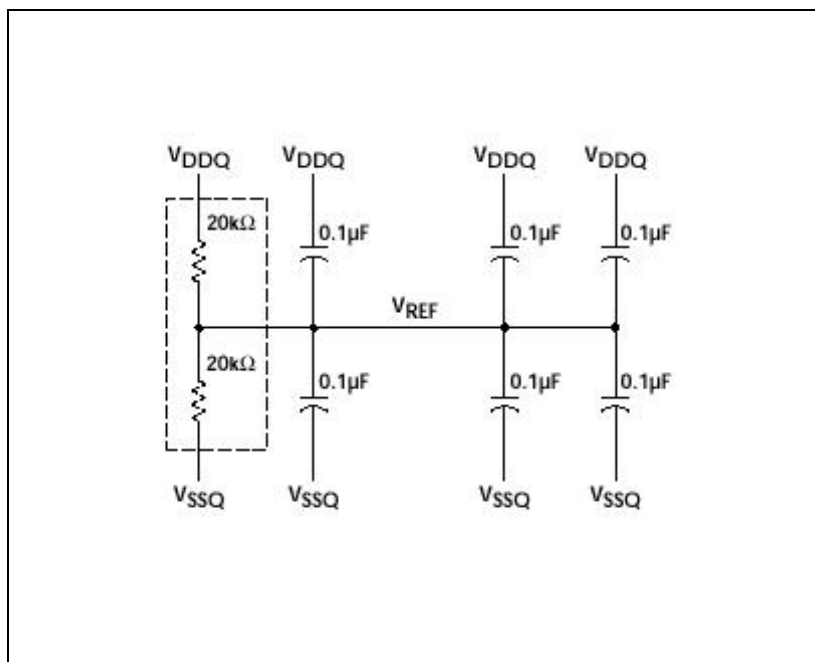

Figure 6 VREF Generation Scheme
- However, VREF (Voltage reference at +1.25V) is still required by the RC32438 processor as well as all DDR chips. Because VREF is usually generated by the LP2995, if the LP2995 is removed, an alternate source must be implemented. A simple divider bridge using 20K resistors in parallel with 0.1uf caps between +2.5V and GND can be used (see Figure 6).